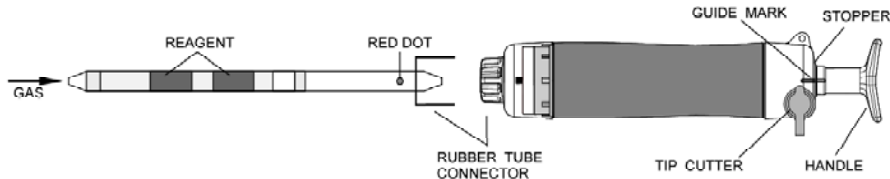

Fig.1
- ① Break both ends of the detector tube.
- ② Insert the detector tube into aspirating pump securely as shown in Fig.1. (Red dot shall point to the pump.)
- ③ Align the guide marks on the shaft and stopper of the aspirating pump.
- ④ Pull the pump handle at full stroke locked position and wait for 2 minutes or until the completion of sampling is confirmed with the flow indicator of the pump (See descriptions about the flow indicator in the instruction manual of the pump).
- ⑤ On the completion of sampling, remove the detector tube from the rubber tube connector and compare the discolouration of reagent in the detector tube with the colour standard chart attached to obtain the concentration.
- ⑥ In case of 5 pump strokes (500 mL), without removing the detector tube from the pump inlet after the aforesaid step ④, turn the pump handle right or left by 1/4 (90°), push it toward the pump, turn it right or left by 1/4 (90°) and repeat the aforesaid steps ③ to ④ another 4 times.
- ⑦ On completion of sampling, remove the detector tube from the rubber tube connector and compare the discolouration of reagent in the detector tube with the colour standard chart attached to obtain the concentration.